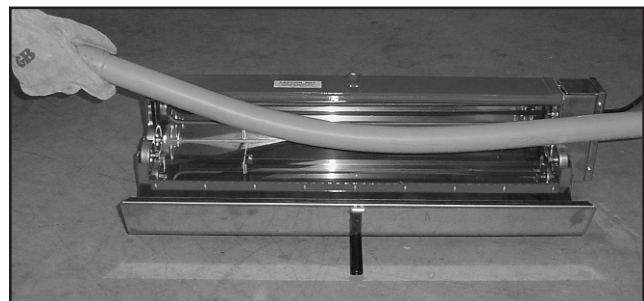

Figure 5. Heating Conduit
2. Heat conduit evenly until conduit is flexible. Take out of bender and bend to desired configuration. See Figure 5.
- Rotate the conduit in the HotBox™ Bender until softened. See Figure 5.